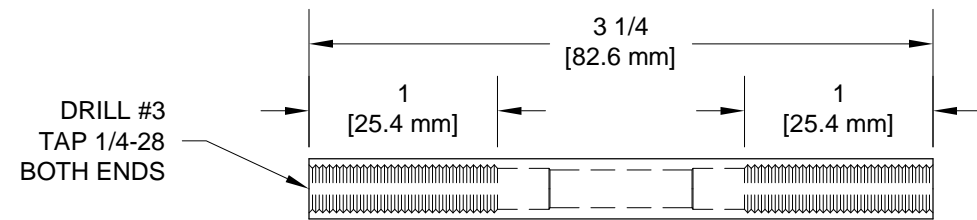

FIGURE 1: SERVO PUSHROD TUBE
Step 1: Fabricate two servo pushrod tubes from AT6-058X5/16 aluminum tube as shown in Figure 1.